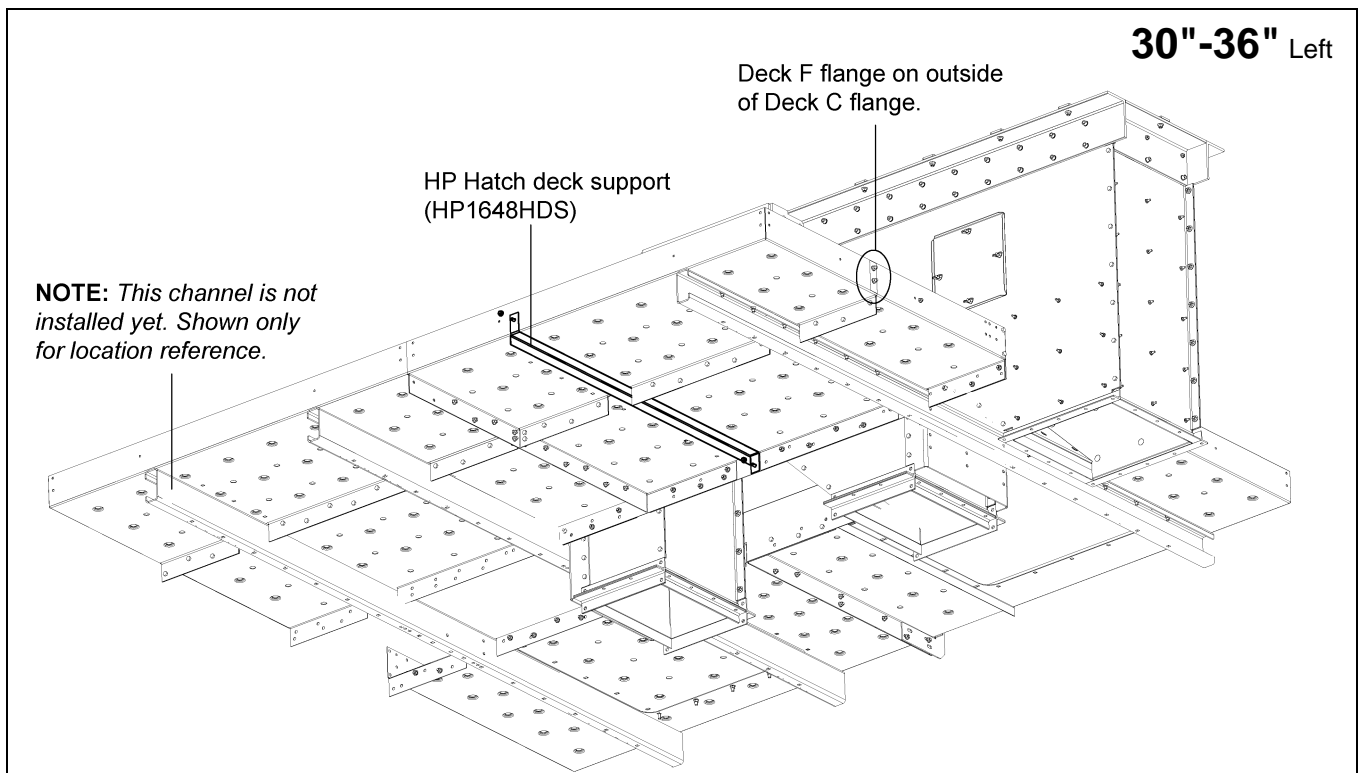

Figure 9N
5. Orient Deck F flange outside of Deck C flange. *(See Figure 9N on Page 87.)*